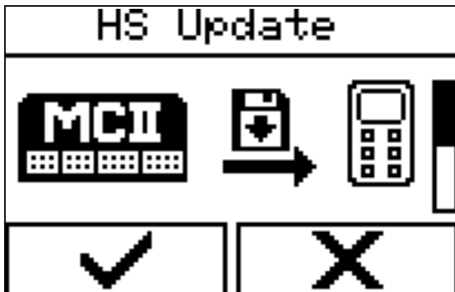

Fig. 64: Selecting a menu
1. ➔ Select the menu via 'Hand switch' → 'Update' → 'HS Update' (Fig. 64).